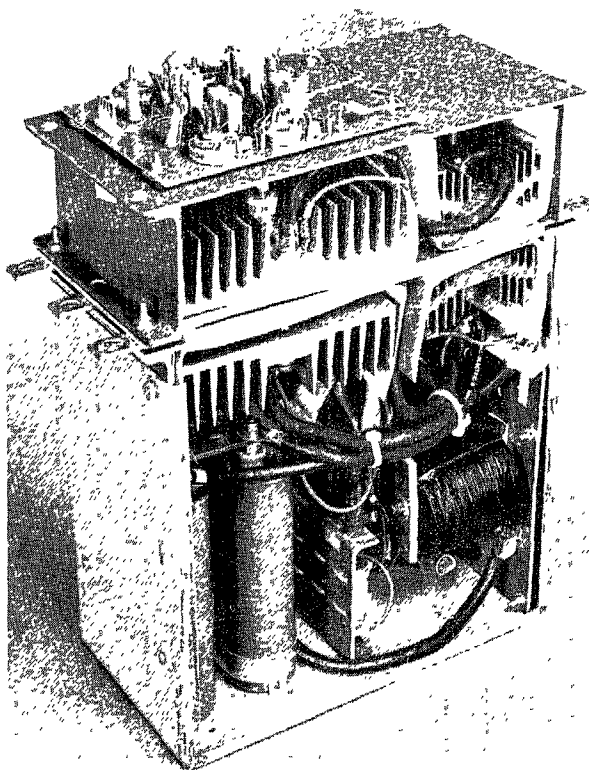

FIGURE 20
2. Stand the Inverter phase module on its back side on a 30" high table. The pulse transformer printed circuit card should be on top. (Normally on the front of the module). See Fig. 20.